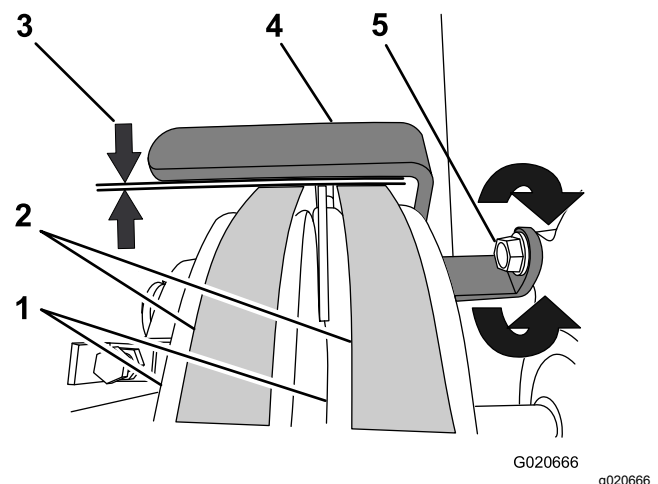

Figure 39
- Check that the air gap between the belt guide and the belts is 2.5 to 4.0 mm (3/32 to 5/32 inch); refer to Figure 39.
- A. Loosen the nut that secures the belt guide to the motor (Figure 39).
- B. Rotate the belt guide up or down until there is an air gap of 2.5 to 4.0 mm (3/32 to 5/32 inch) between the guide and each belt (Figure 39).
- C. Tighten the nut that secures the belt guide to the motor (Figure 39).